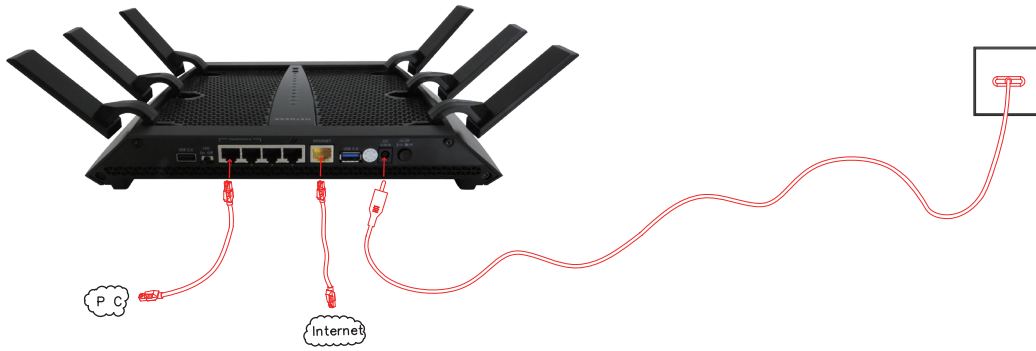

Figure 4
(4) If needed , connect the WAN port of ViMatrix with a network cable to the Internet, as shown in Figure 4 below.